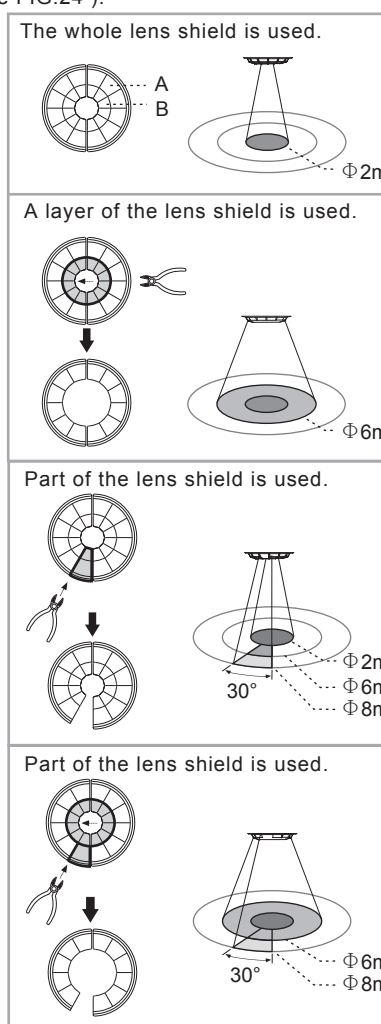

FIG.24
4.2.3.2 After choosing the desired detection area, remove the sections of the lens shield no longer necessary (See FIG.24).
● The shaded part in the FIG.24 shows the detection area exposed from removing sections of the lens shield.